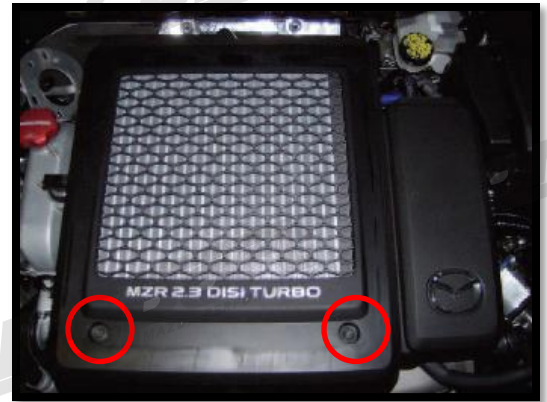

Figure 1a
- A. Remove the two (2) 10mm Hex Bolts holding the intercooler cover to the intake manifold as shown in **Figure 1a**. Slide the intercooler cover off the back of the intercooler and out of the engine compartment.